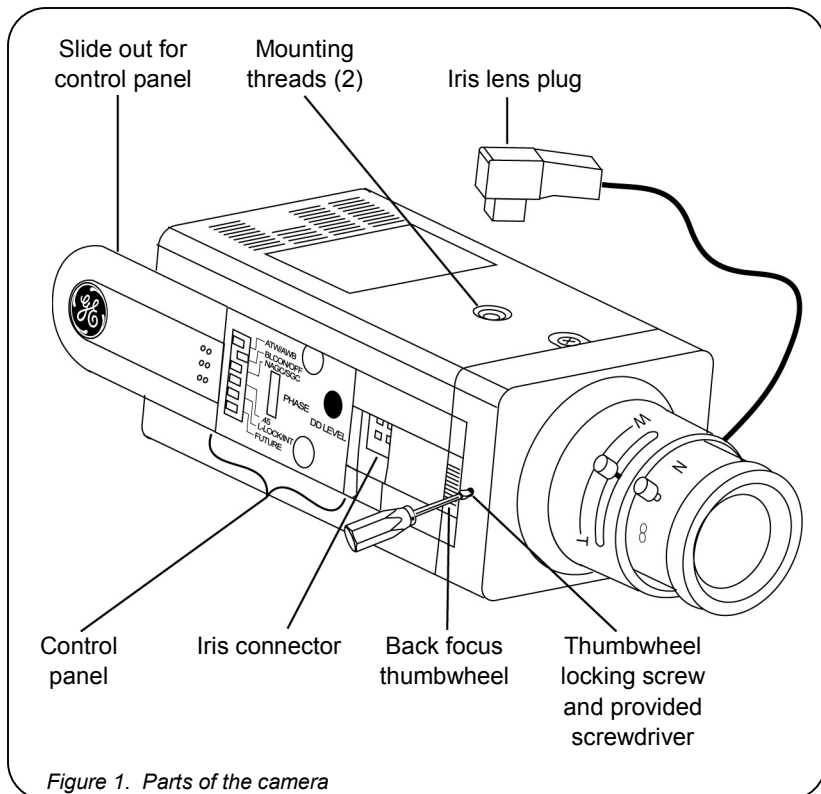

Figure 1. Parts of the camera
4) If you are using an auto iris lens, insert the iris lens plug into the auto iris lens connector. (See Figure 1.)
- 4) Using the included screwdriver, turn the back focus thumbwheel screw counterclockwise (unlock) so that the back focus thumbwheel turns. (See Figure 1.)